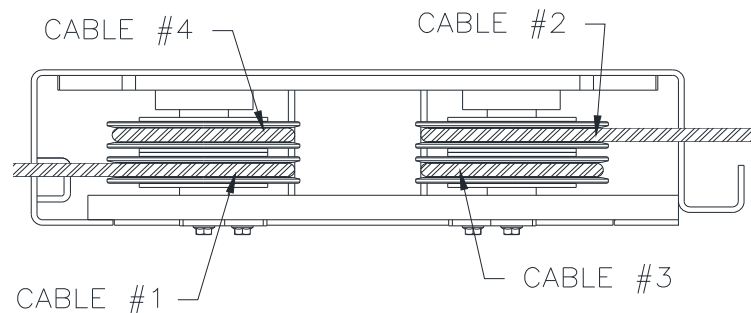

Fig 6 – Power Runway 4-Stack (Rear View)
- Unpack lift. Remove all packaging from Power Runway (power runway has four cable sheaves at rear end) and pull threaded cable ends out. Make sure the cables are in the proper sheaves at the 4-stack, **Fig 6**.
- 12) From the rear, route cable #1 from the bottom of the left sheave stack through the access hole and up out the left end of the rear cross beam. Repeat for cable #2 from the top of the right rear sheave stack through the access hole and up out the right rear of the rear cross beam, Fig 6 & 7. **MAKE SURE THE CABLES ARE NOT TANGLED WITH THE LOCK RELEASE ROD INSIDE THE CROSSBEAM.**